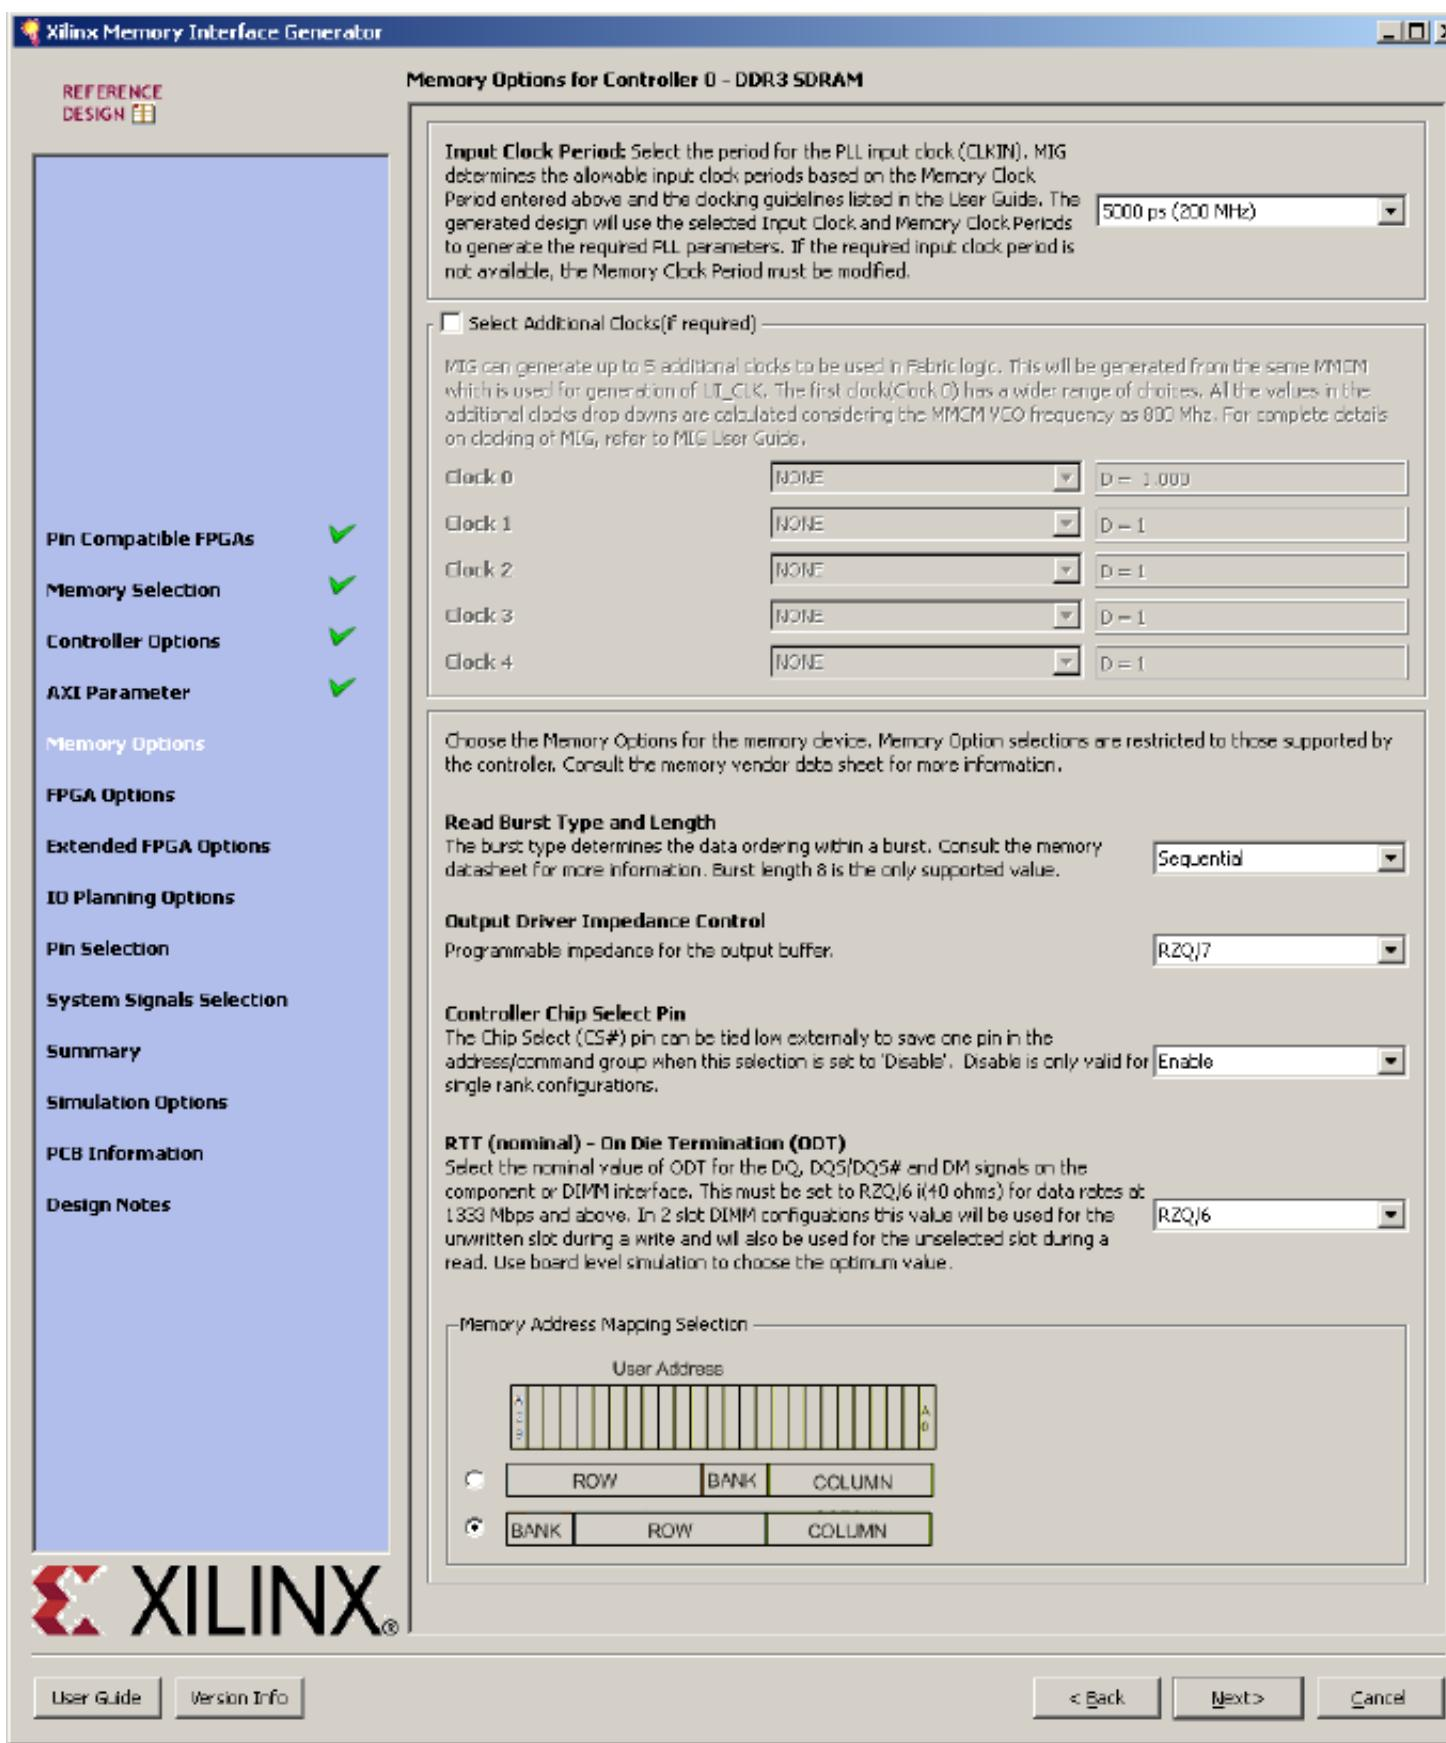

Figure 30: MIG AXI Parameter Options
9. In the **AXI Parameter** settings, set the following, then click **Next**: (Figure 30, page 20).